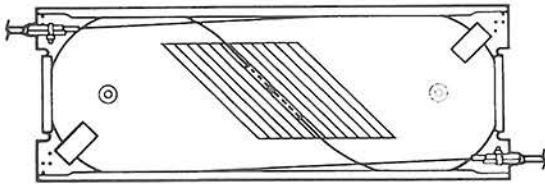

FIGURE 12
8.07 Position each splice into the grooved splice block. Use a small amount of RTV sealant (if required) to secure the splice in place. Secure the fiber slack inside the splice tray with the felt adhesive strips, Figure 12.